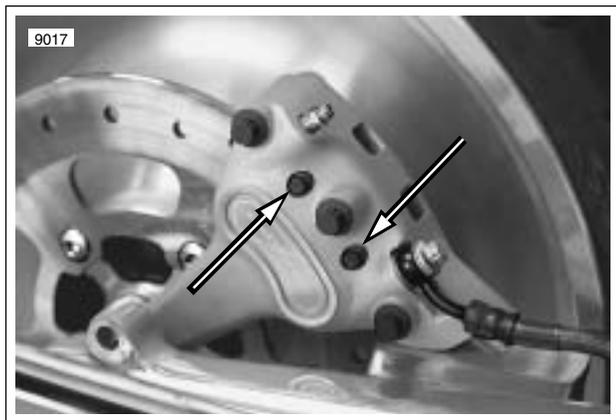

Figure 1-31. Rear Caliper Pad Pins (12 pt/0.25 in.)
2. See Figure 1-31. Loosen, but do not remove, both pad pins (12 pt/0.25 in.).